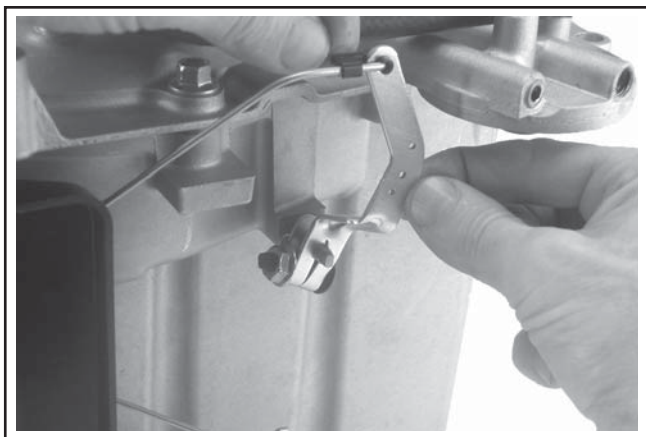

Figure 10-68. Governor Lever Installed on Shaft.
1. Install the governor lever\* onto the governor shaft with the lever section up. Connect the throttle linkage using the black linkage bushing. See Figure 10-68.